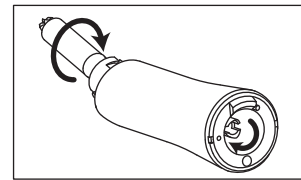

Fig. 10
- 2) Turn the gear at the end of the drive shaft to confirm that they are engaged. (Fig.10)